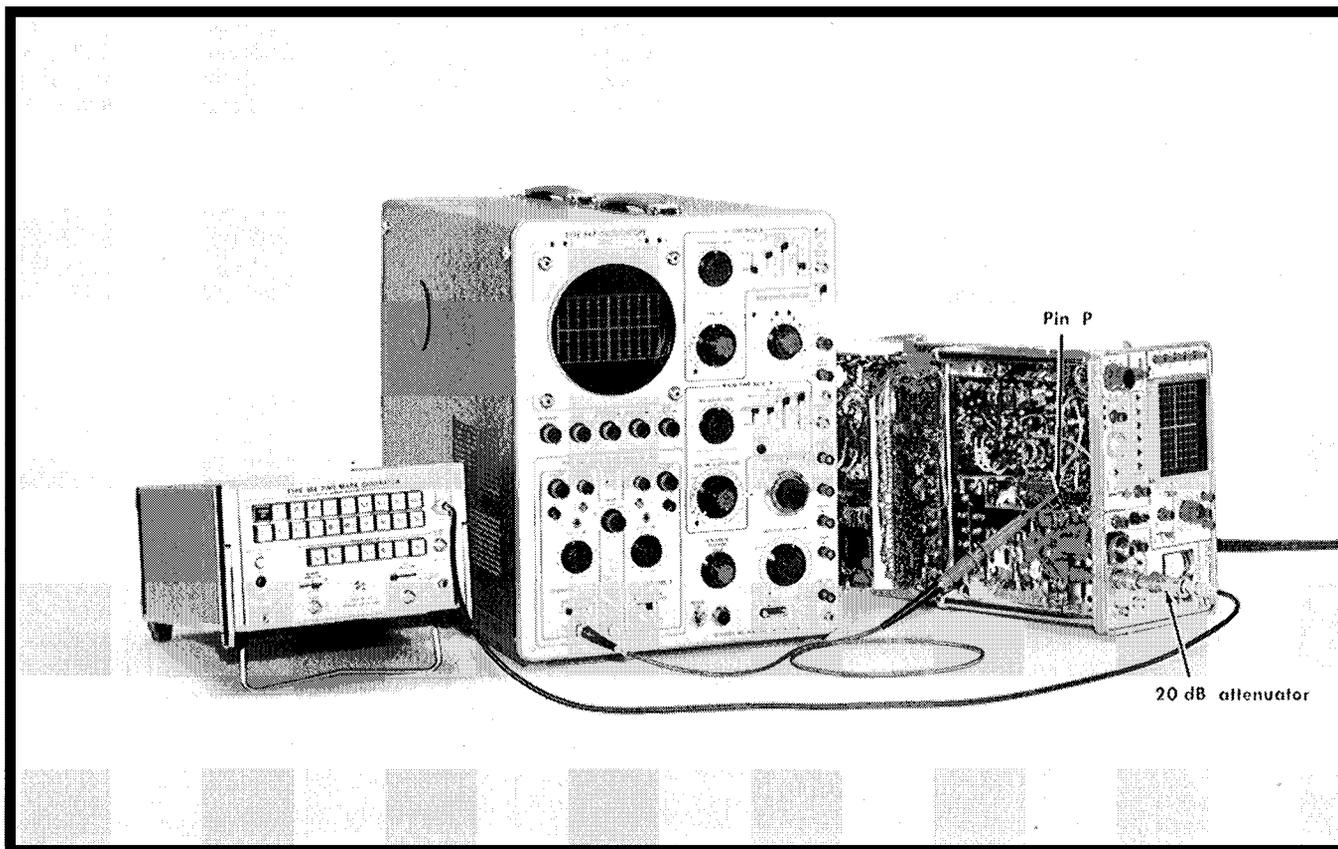

Fig. 6-19. Test equipment setup to adjust and check dispersion accuracy.
- a. Equipment setup is given in Fig. 6-19.